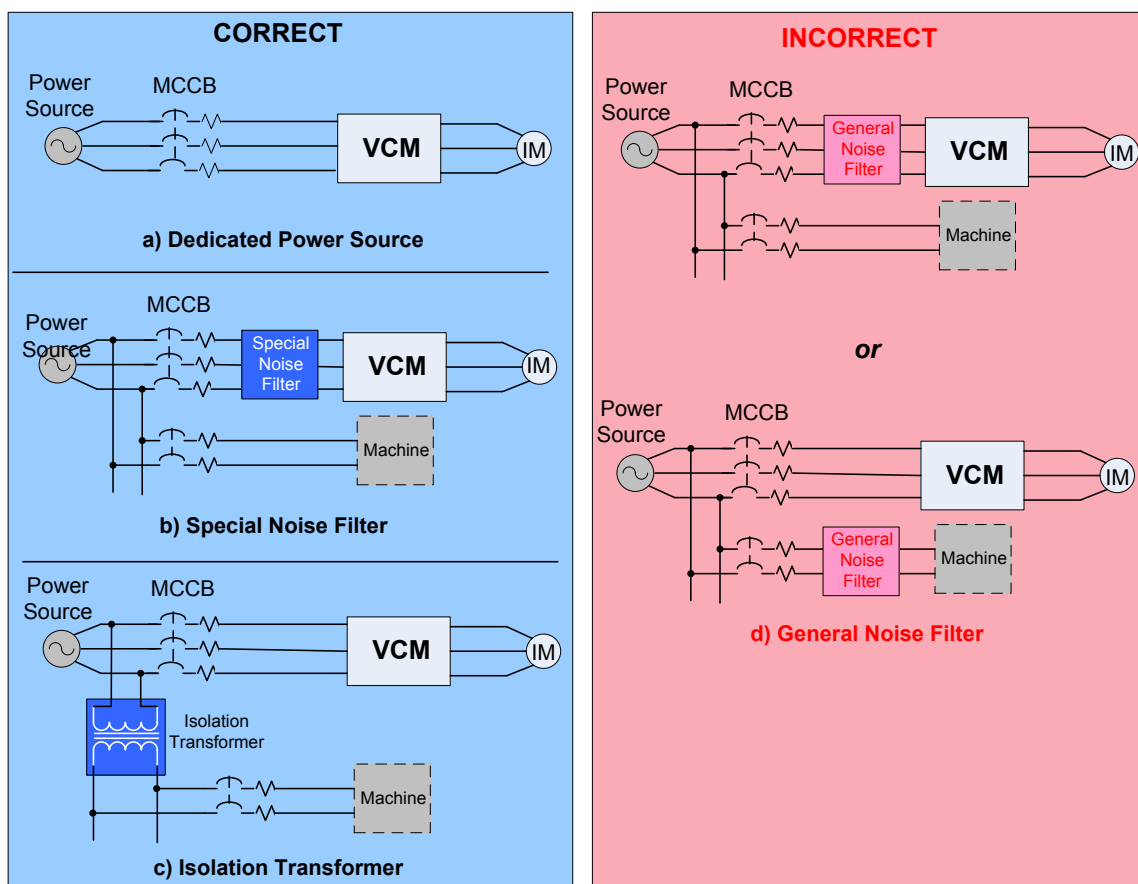

Fig. 8.6 Input Power Wiring and Installation Examples
Fig. 8.6 shows input power installation recommendations with correct and incorrect examples.
- When possible the inverter should be connected to a dedicated input power source. (Fig. 8.6 a)